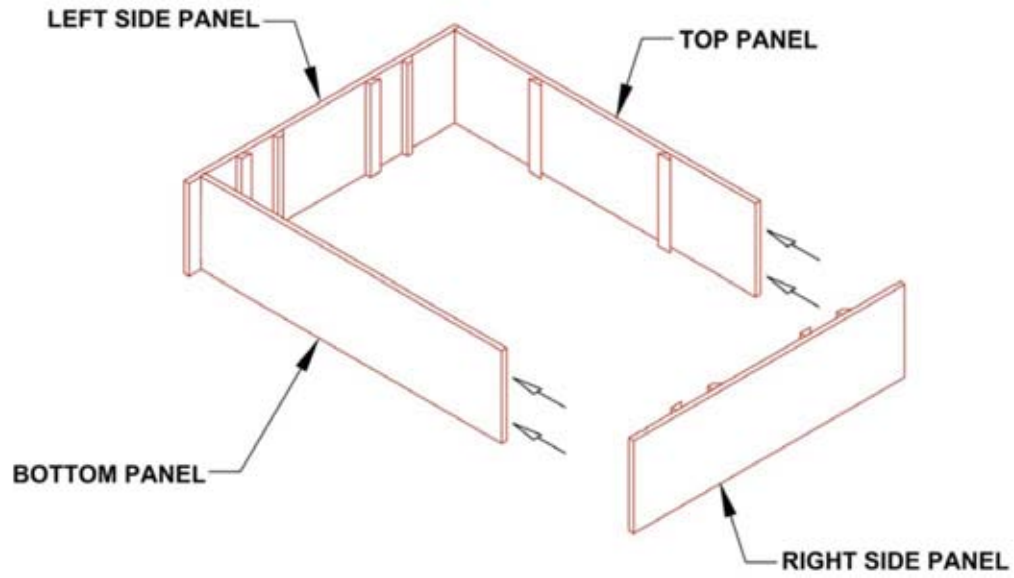

Figure 3
4. Attach the right panel to the top and bottom panels using the pre-drilled holes and screws provided (**Figure 3**).